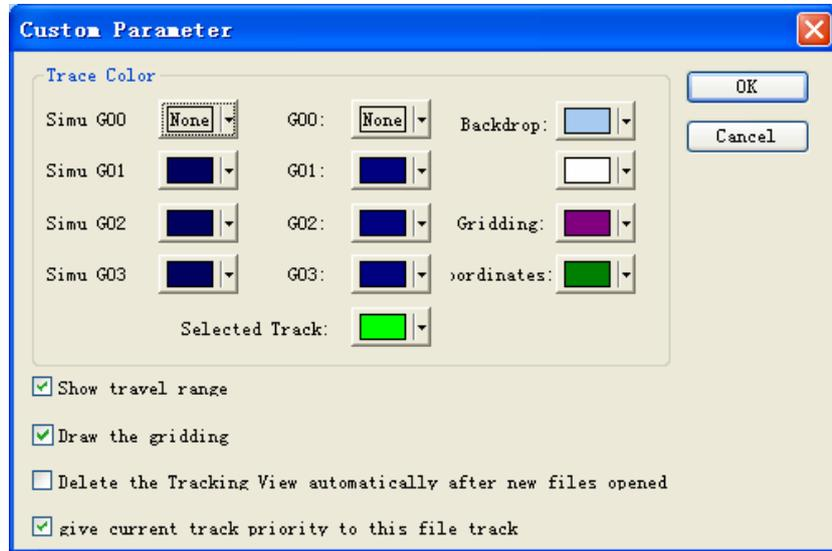

Fig. 5-14 Property Dialogue Box
Click [property (M)] button on shortcut menu, the system will pop up [individuation parameter] dialogue, shown in Fig. 5-14 below, this window is used to customize track window to set track mode and color: